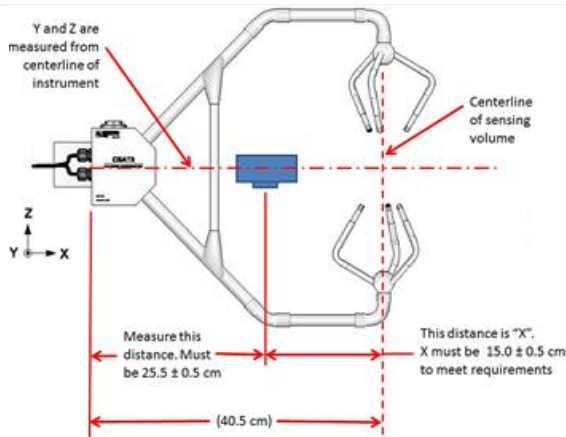

Figure 87. Measure Installation of Components.
STEP 14 | Measure and level installations of each component using a level and measuring tape. Measure from the center of the inlet (Figure 87). Reference TIS Site-Specific As-Built documents in the Document Warehouse.